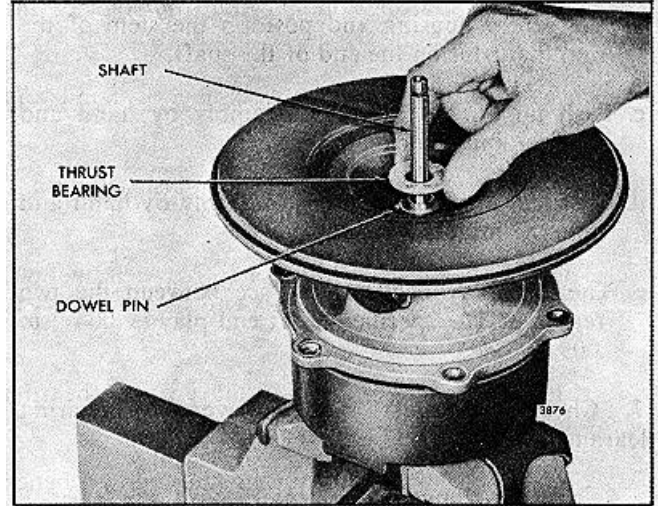

FIG. 27 - Installing Thrust Bearing in Center Housing
5. Lubricate the thrust plate bearing with engine oil then place it on the shaft with the three oil grooves in the face of the bearing facing up (Fig. 27). Align the hole and slot in the bearing with the dowel pins in the center housing, then place the bearing over the dowel pins and against the housing.